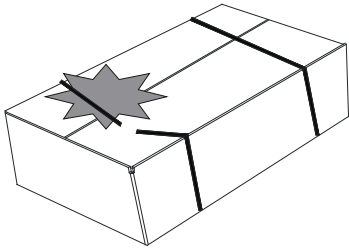

Fig. 2-6
1. Cut off the packing strap and open the carton (see Fig. 2-6);